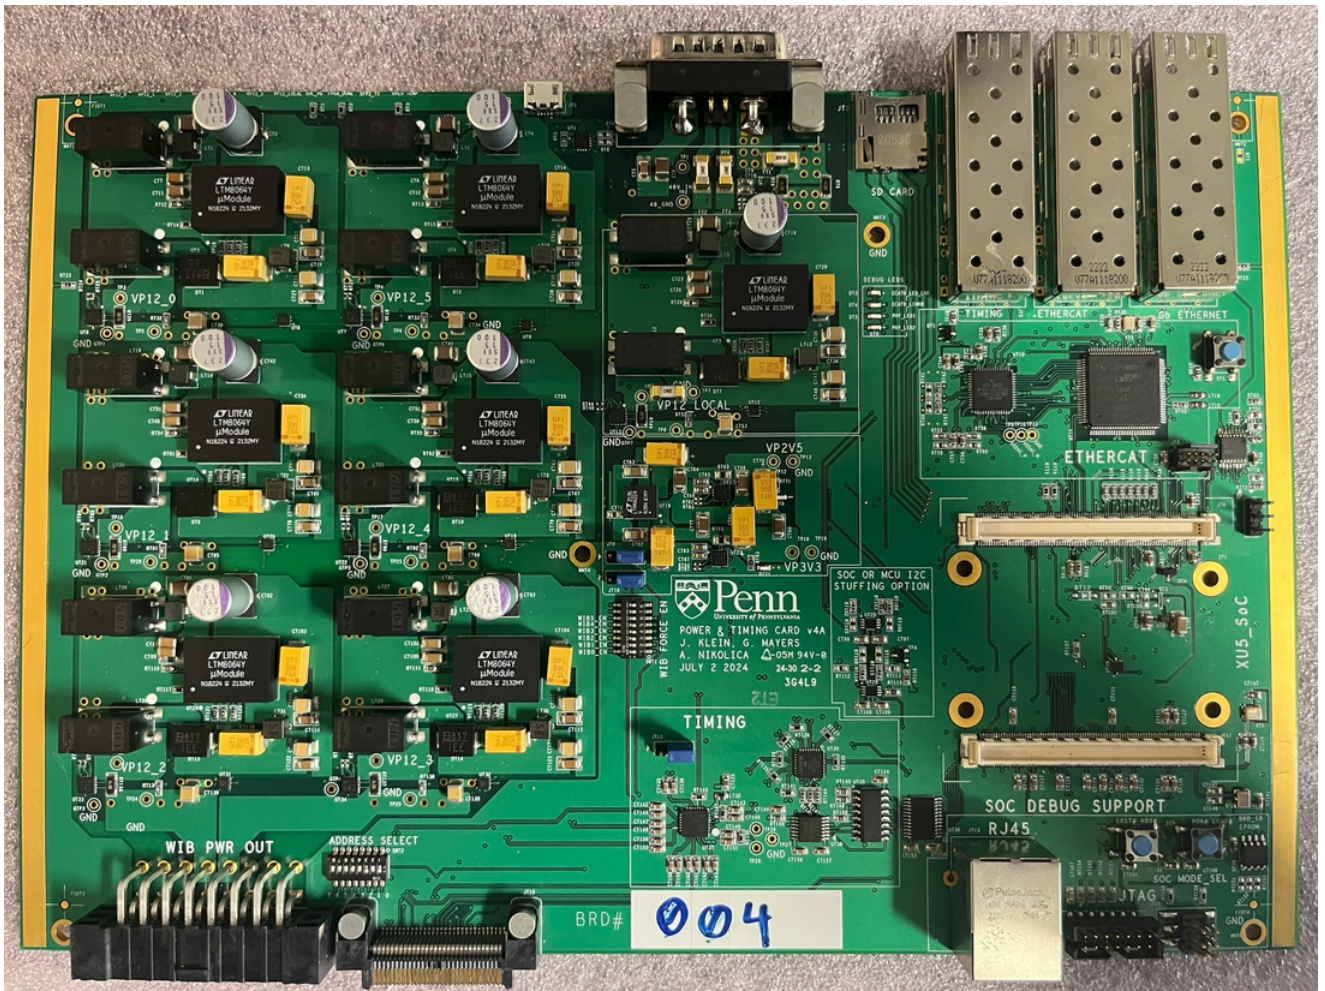

Figure 8: Example assembled PCB
An example of an assembled PCB is shown in Figure 8. The PCBs will arrive from the vendor packaged in ESD safe bags. At this stage, all PPE should be worn to prevent damage from ESD discharge and contamination.
- (a) As per Figure 8, install the following 3 blue 2-position jumpers: